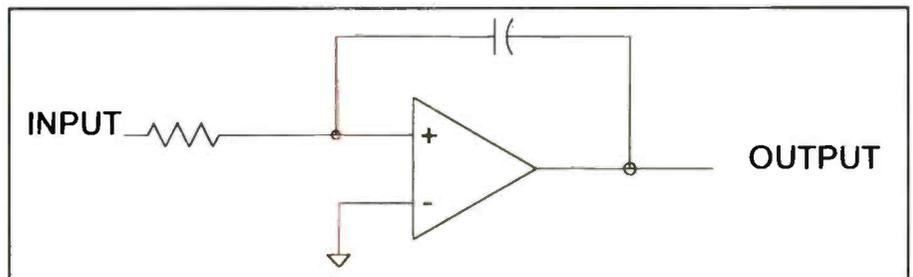

Figure 1. What is the function of this circuit?
In the Buyer's Guide issue of **ES&T** I proposed a basic box problem. I have repeated it here. You have a black box with interconnected resistors inside. You cannot see inside the box, but, you know some things about it. See Figure 1.
Figure 1. This black box contains interconnected linear, bilateral, resistors. Points B and D are shorted together. Can you measure the resistances between A and B and between C and D and design a circuit that will provide the same resistances?
Figure 2. You can replace the black box of Figure 1 with this circuit. The calculations in the text show how to determine the values of resistors R_1 , R_2 and R_3 .
7. The circuit in Figure 1 is